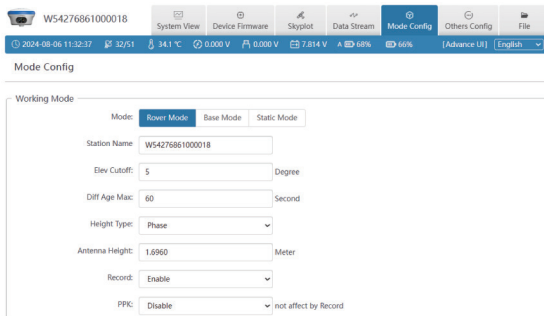

Figure 2.5-1
① **Working mode:** You can select Rover Mode/ Base Mode/Static Mode, and select the Elev Cutoff at the same time;
1. Rover Mode: the following parameters (Station Name, Elev Cutoff, Diff Age Max, Height Type, Antenna Height, Record, PPK) can be configured, as shown in Figure 2.5-1: